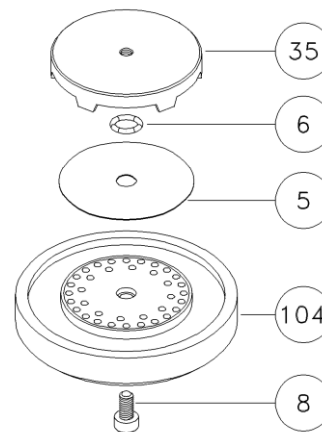

Figure 6-36; Low noise bottom valve
- In case of a low noise version the O-ring (6) must be mounted carefully in the groove of the bottom valve cap (35). In case of assembly always use a new valve and O-ring (Figure 6-36).
- Figure 6-36).
- The valve stop (7) or the setscrew (8) must be locked with Loctite and tightened at the prescribed torque. *Please consult section 6.9 and 6.10.*
- Place a new copper ring (60) on the bottom valve